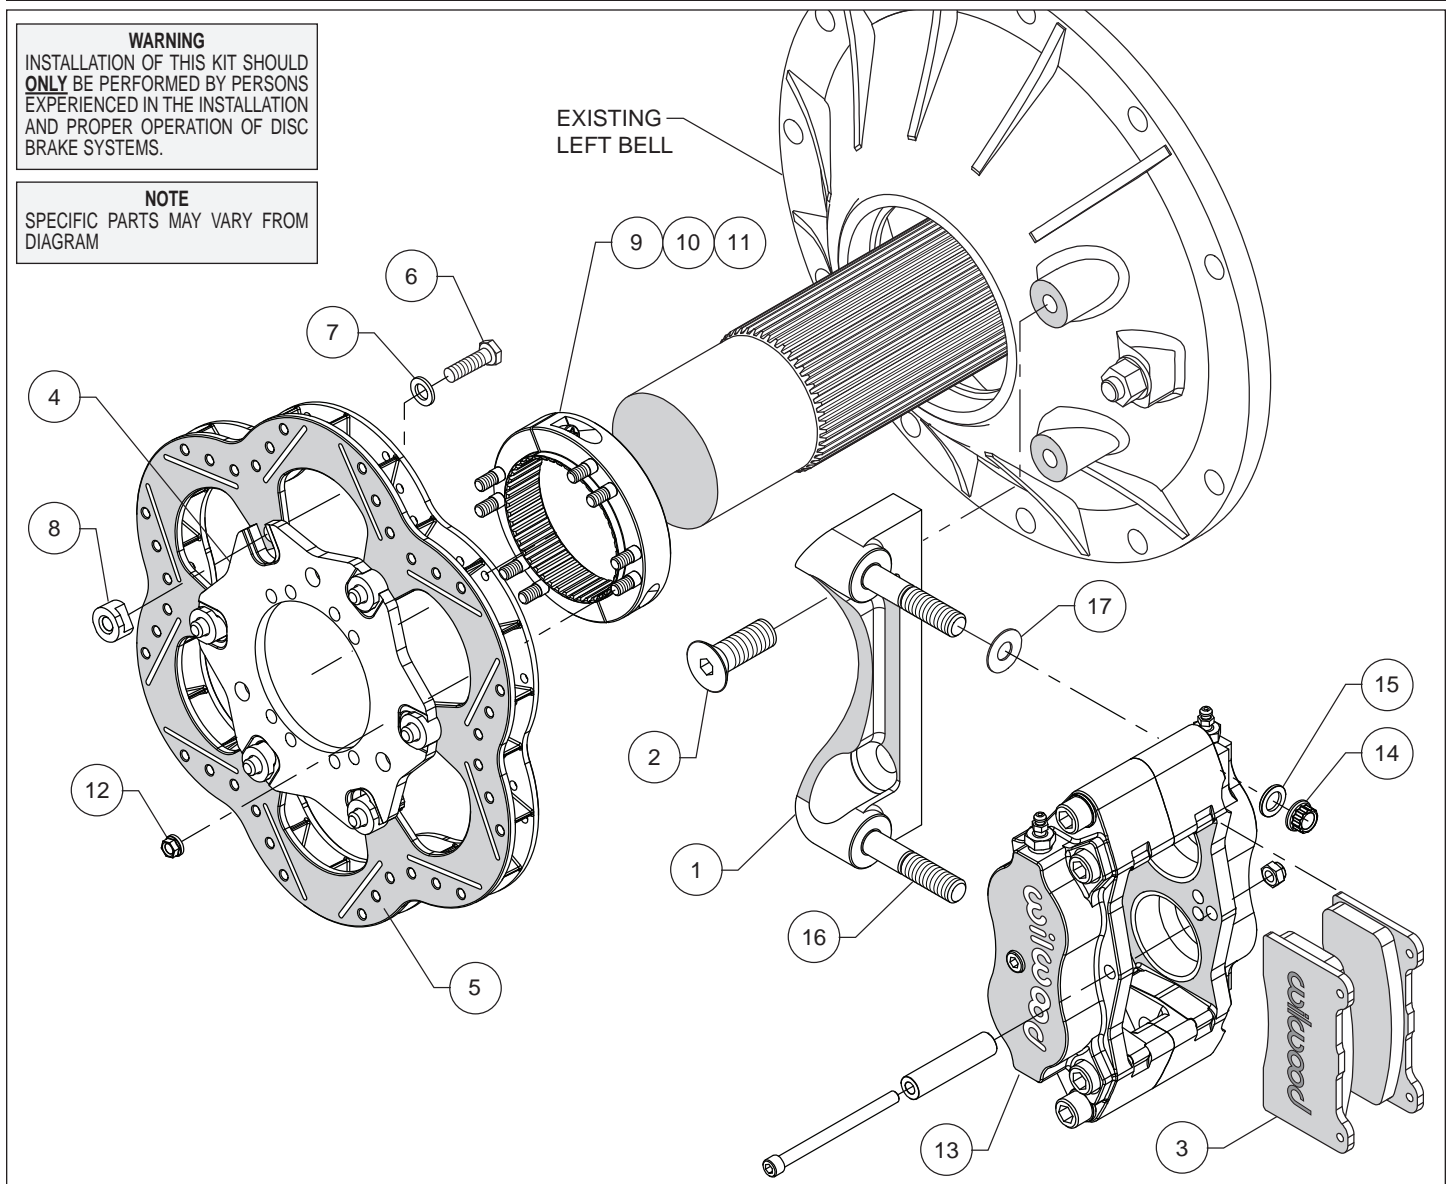

Figure 1. Typical Installation Configuration
• Orient the bracket (1) as shown in Figure 1 and install using bolts (2). Temporarily tighten bolts. **NOTE:** Bracket must fit squarely against the mounting bosses on the bell. Inspect for interference from casting irregularities, machining ridges, burrs, etc. Remove the bracket mounting bolts one at a time, apply red *Loctite*® 271 to the threads, and torque to 47 ft-lbs.
• With the T-notches of the rotor adapter (4) facing away from the rotor (5), attach adapter to rotor using bolts (6), washers (7) and t-nuts (8) as shown in Figure 1. Apply red *Loctite*® 271 to the bolt threads before installing. Finger tighten. After all t-nuts have been installed, torque bolts in an alternating sequence to 220 **in-lbs**. Please refer to Wilwood's data sheet DS-669 (available at [www.wilwood.com/Pdf/DataSheets/ds669.pdf](http://www.wilwood.com/Pdf/DataSheets/ds669.pdf)) for complete t-nut bolt kit installation instructions.
• Orient the axle clamp assembly (9, 10 and 11, pre-assembled) as shown in Figure 1 and install onto the rotor adapter (4) using nuts (12). Tighten nuts part way while still allowing clamp-to-rotor movement. The nuts will be torqued later, after aligning the rotor. **NOTE:** The axle clamp should be positioned inside of the rotor as shown in Figure 1, not offset, or outside of the rotor adapter.
- Lubricate caliper mounting studs (16) with lightweight oil. Initially place two shims (17) on each stud as shown in Figure 1. Mount the caliper (13) onto the bracket (1) using washers (15) and lock nuts (14), Figure 1. Temporarily tighten the lock nuts and view the rotor through the top opening of the caliper. The rotor should be centered in the caliper. If not, slide the rotor/adaptor assembly on the axle until the rotor is centered in the caliper. Tighten the clamp bolts (11) first, locking the clamp to the axle. Torque nuts (12) to 140 **in-lbs**.
- Remove the caliper center bridge pad retainer bolt, nut, and tube from the caliper. Insert the brake pads (3) into the caliper, with the friction material facing the rotor. Check that the top of the brake pad is flush with the outside diameter of the rotor. If not, adjust by adding or subtracting shims (17) between the caliper and the bracket. After the caliper pad height is set, torque the caliper lock nuts (14) to 30 ft-lb. Secure the brake pads in place with the center bridge pad retainer tube, bolt, and locknut. The locknut should be snug without play in the bolt or tube. Be cautious not to over tighten.